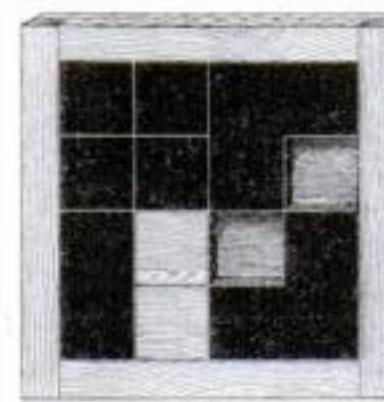
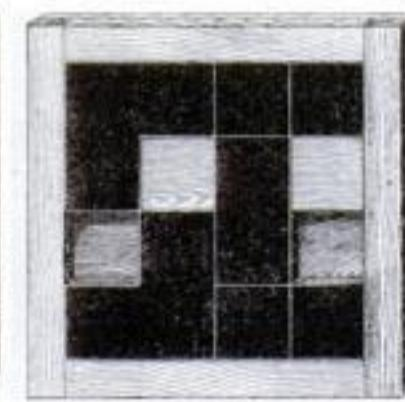

FIG. 3
FIG. 4
**T**HE problem is to move the blocks from the first position to form the letters "PS" (POPULAR SCIENCE) as shown in Fig. 3. The blocks are not to be lifted out or twisted around, and the box is not to be reversed.
In devising other forms (such as the SC position shown in Fig. 4) for the second position, some may be found in which it is impossible to move the blocks. The oblong piece is especially obstinate in blocking the way of progress, and for certain figures it may be necessary to saw it into two pieces.
The blocks are arranged first to form a Greek cross (Fig. 2) and are moved by sliding them from place to place to form a shape similar to the letters PS (Fig. 3) or the letters SC (Fig. 4).